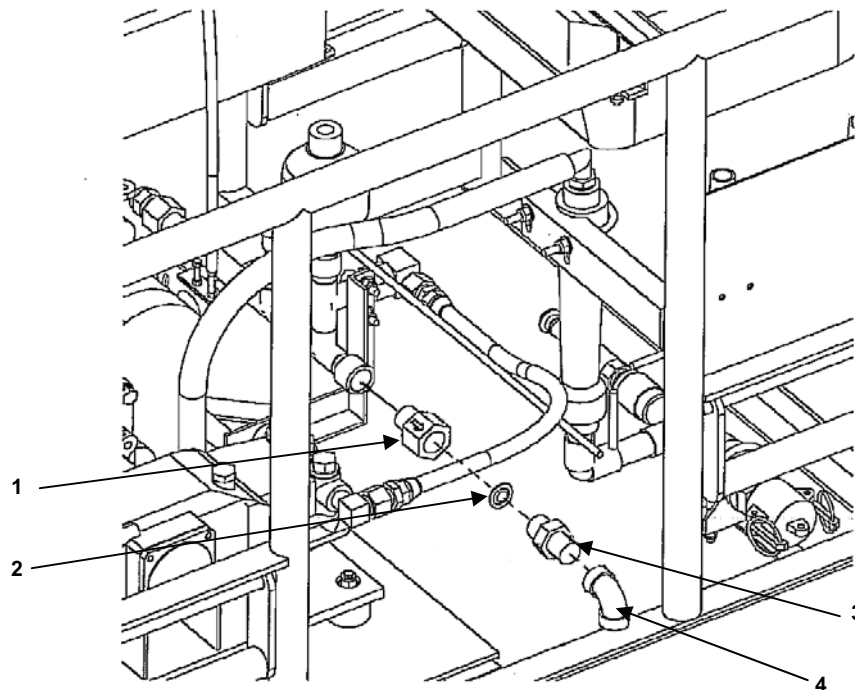

Figure 1. Rupture Disc Holder.
1. Loosen the outlet half (Figure 1, Item 3) of the rupture disc holder and elbow (Figure 1, Item 4) from product piping. It is not necessary to separate the elbow (Figure 1, Item 4) from the outlet half (Figure 1, Item 3). Remove rupture disc (Figure 1, Item 2).
2. Remove inlet half (Figure 1, Item 1) of the holder from piping only if necessary. **Note the direction of the arrow on the holder.**
5. If removed, install inlet half (Figure 1, Item 1) of the rupture disc holder into the piping.
6. Install rupture disc (Figure 1, Item 2) into inlet half (Figure 1, Item 1): the rupture disc should be bulging into the water side.
7. Install outlet half (Figure 1, Item 3) of the holder and elbow (Figure 1, Item 4).